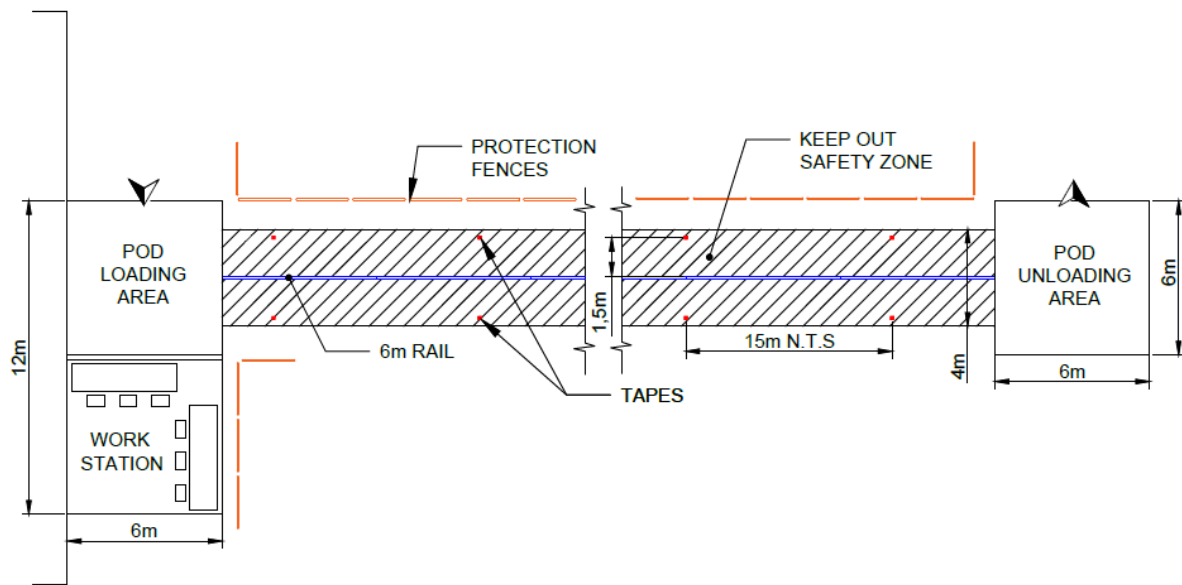

Figure 8.3: Situation at the Test Track
At the end of the loading and assembly process of the demonstrator on the track, no member must remain in the loading area or in any of the areas marked as safety areas (keep out zones), which can be seen in the attached Figure 8.3 (and in Annex A). The members in charge of the control, telemetry and navigation will be located in the so-called 'Work station'.
- TT.3 During a demonstration, it is forbidden for people or subjects to remain within the pod loading area, the pod unloading area, and the keep out safety zones as they are defined in Figure 8.3.